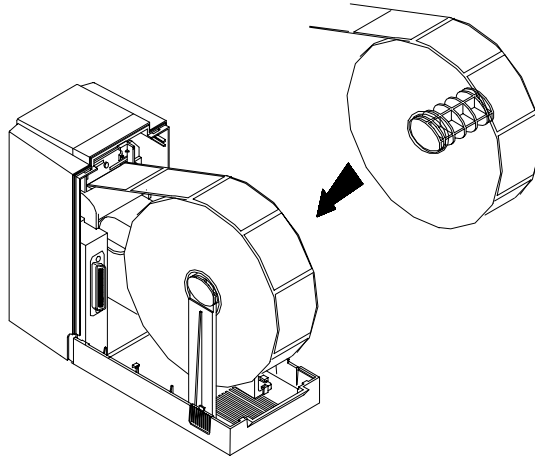

Fig. 2.3.3
4. Place the large-size label roll on the stands (see figure 2.3.3).